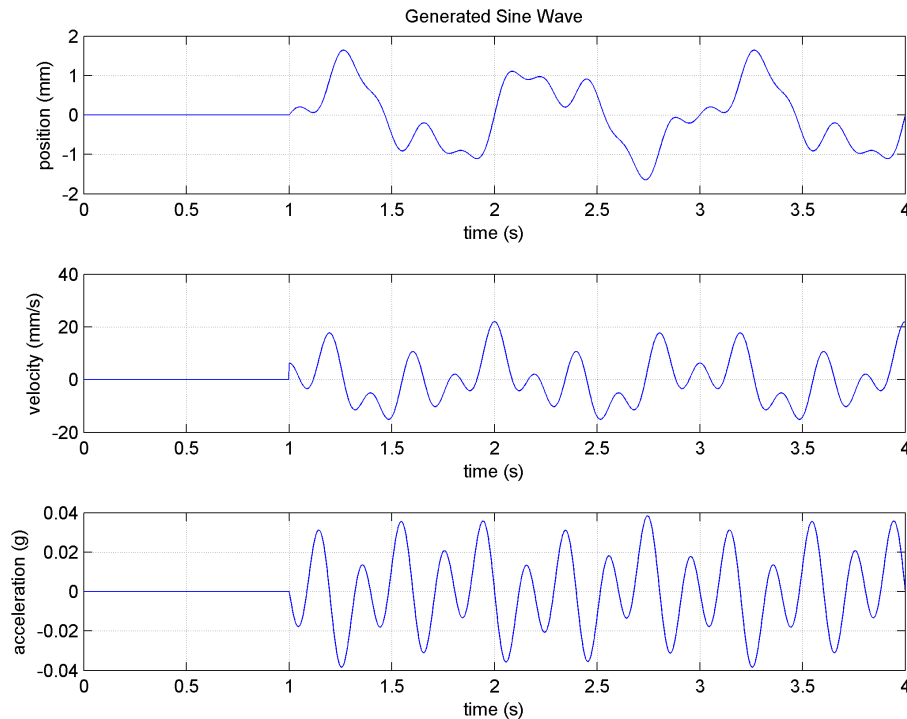

Figure 5.1: Sine wave created by `make_sine.m` script
- Run the `make_sine.m` script (click on Debug | Run in the Editor menu bar or on the *Run* icon in the Editor tool bar) to generate the sine wave. This will generate a plot similar to Figure 5.1.